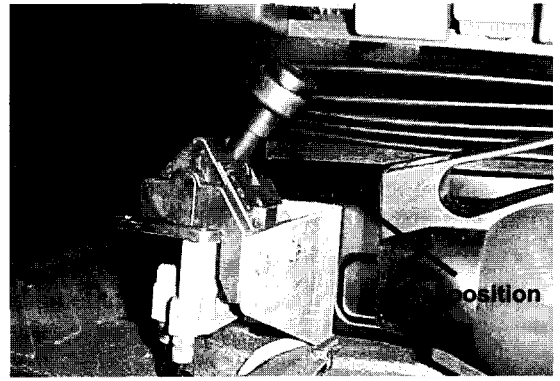

Fig. 26-1
- Move the control lever from neutral (Fig. 26-1) to raised (fig. 26-2).
At the end of travel, stop raising: distributor in neutral position (fig. 26-1). The hoist stops automatically.
When the dumper body is resting on the chassis side rails, wait a few seconds for the hydraulic circuit to decompress before returning the control lever to the neutral position (fig. 26-1). This will prevent any inadvertent raising of the dumper body with the vehicle running, and will prevent any entry of air which could damage the seals.